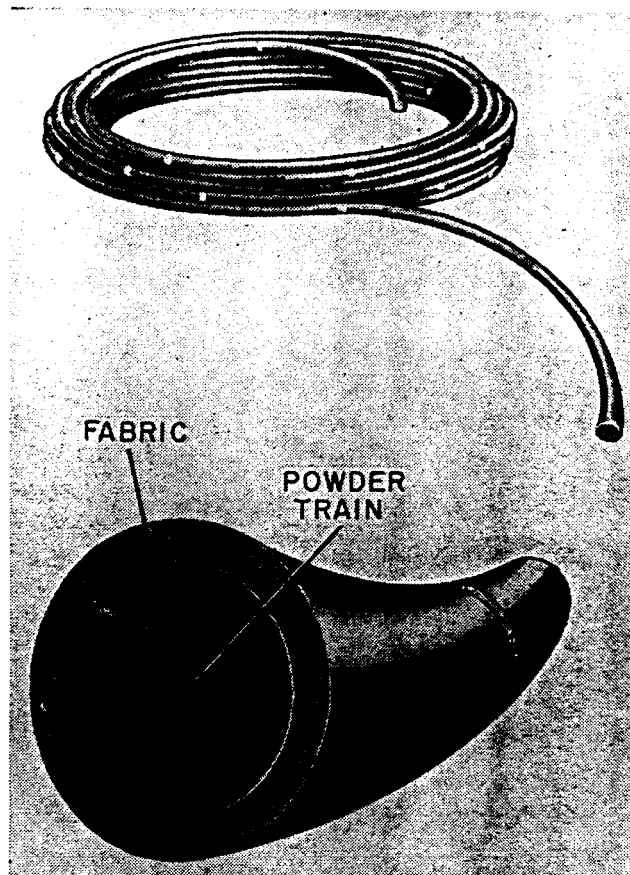

Figure 43. Safety fuse.
d. *Safety Fuse.* Safety fuse (time fuse, fig. 43) is a slow-burning powder train enclosed in a tube of waterproof fabric or plastic. The fuse burns at a rate of 1 foot in 30 to 45 seconds. Before using safety fuse, test the actual burning time by cutting a 1-foot length and measuring the length of time it takes to burn. To ignite safety fuse, either attach a fuse lighter (*e* below) to it, or slit the end of the fuse to expose the powder train, bury a match head in the powder, and set fire to the match head.